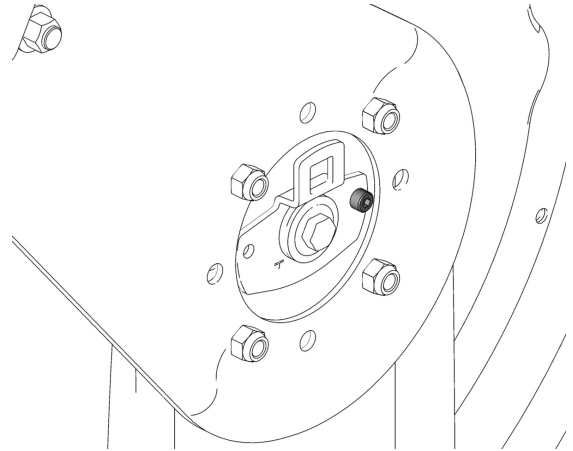

FIG. 15
6. Remove ratchet (C) (FIG. 15).